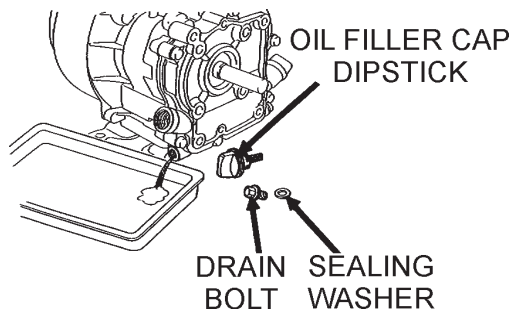

Figure 27. Engine Oil (Draining)
2. Drain the engine oil when the oil is **warm** as shown in Figure 27.